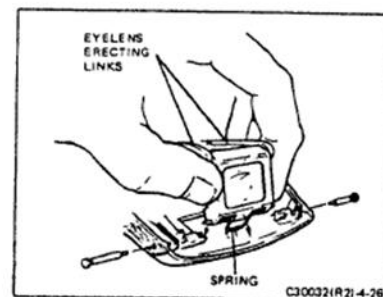

FIGURE 4-26 INSTALLING SPRINGS
- d. Referring to Figure 4-26, line up the ends of the center pivot pin section with the grooves in the viewfinder cap. Tension the spring and at the same time, press the lens housing down so that the ends of the pivot pin rest in the grooves.
- e. Remove the two short-cover-to-mirror-cover hinge pins, using Special Tool #11665. Insert the tool through the separation between the short cover and the mirror cover (Figure 4-26).